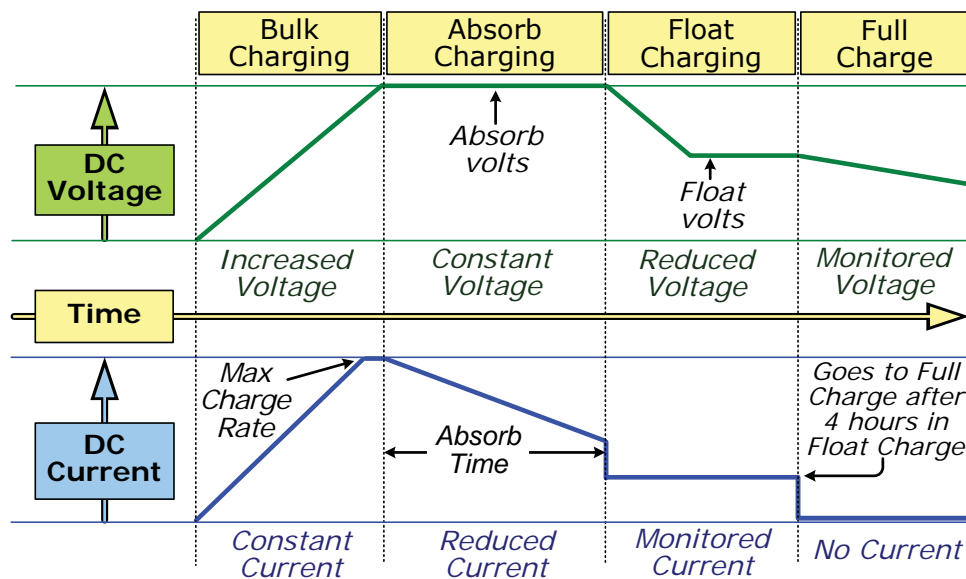

Figure 3-3, Automatic 4-Stage Charging Graph
The MSH3012RV's multi-stage charger can use up to five different charging stages to help keep the batteries healthy. The five stages include an automatic 4-stage charging process (see Figure 3-3): Bulk, Absorb, Float, and Full Charge; and a manual Equalization (EQ) charge stage. The automatic 4-stage charge process provides complete recharging and monitoring of the batteries without damage due to overcharging. The EQ stage (requires a remote control display to enable) is used to stir up stratified electrolyte and to reverse any battery plate sulfation that may have occurred—if recommended by your battery's manufacturer.